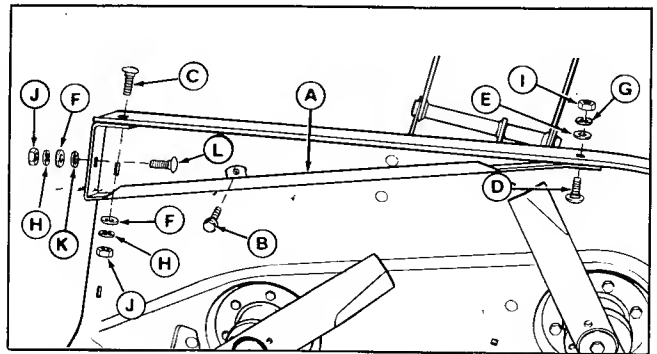

Figure 3.
4. Install the discharge baffle (A, figure 3) as shown. Insert bolt (L) and install push nut (K) fully onto threads to hold bolt (L) in place. (The lockwasher (F), washer (H) and nut (J) will be used to install adapter.